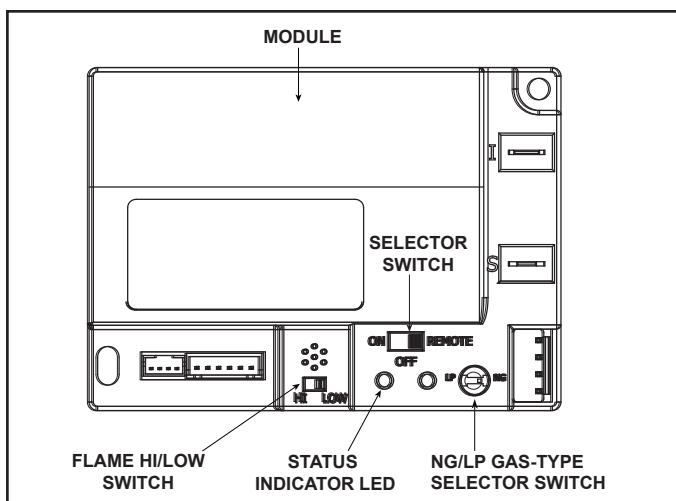

Figure 3.6 Control Module
1. The control module has an ON/OFF/REMOTE selector switch that must be set. See Figure 3.6.
2. If using a wired wall switch with the module in REMOTE mode, the flame output can be adjusted with the HI/LO selector switch on the module. See Figure 3.6. Note that the flame HI/LO selector switch will become inactive once an optional remote control is programmed to the control module. Note that the control module will always ignite the fireplace on HI and remain so for the initial 10 seconds of operation. If the HI/LO is switched to the LO position, the flame output will automatically drop to the lowest setting after the flame has been established for 10 sec. After this 10 second period, the flame can be adjusted from HI to LO with the switch.
- Locate the module selector switch. (See Figure 3.6).